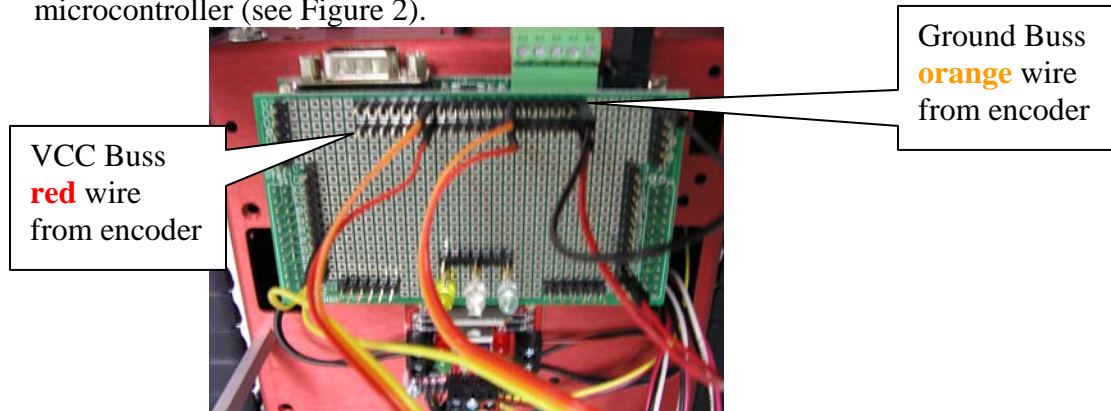

Figure 2: Encoder VCC and Ground
- iv. Please note that the right encoder has the green tag and tape on it. Connect the ‘red’ wires from both encoders to the “VCC” (front buss) on the microcontroller. Connect the ‘orange’ wires from both encoders to the “GND” (back buss) on the microcontroller (see Figure 2).